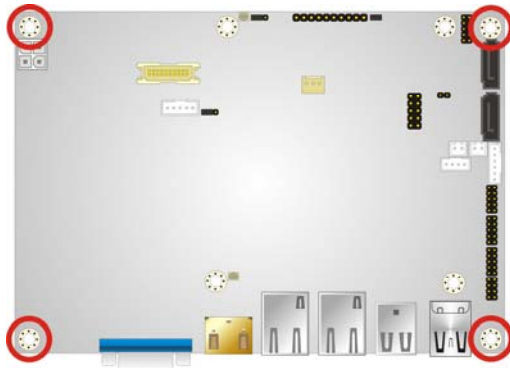

Figure 3-8: Retention Screws on the Motherboard
Step 4: Release the motherboard from the panel PC by removing the four retention screws (**Figure 3-8**).